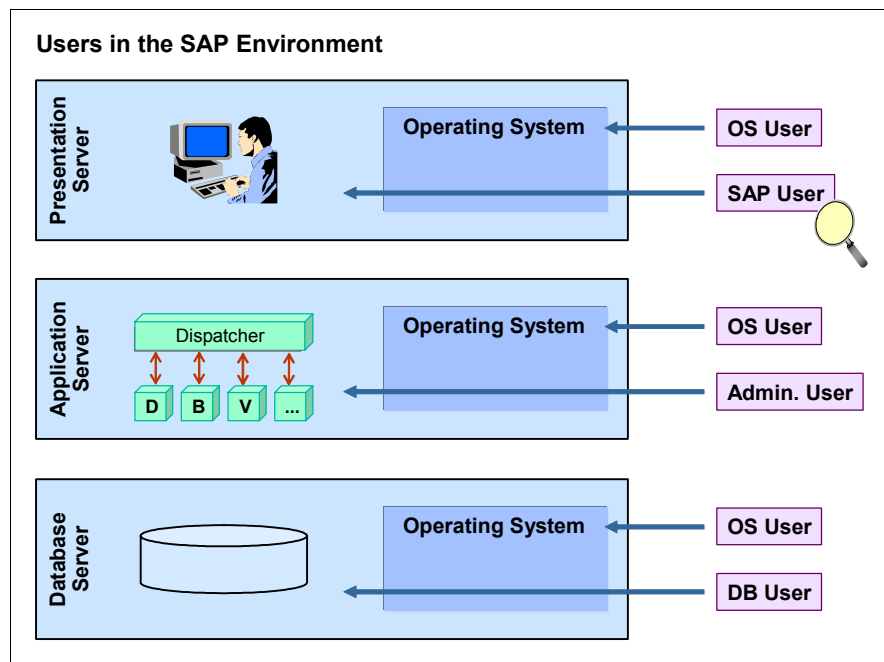

Figure 16-14 Users in the SAP system environment
There are several different users residing outside the SAP system, such as the operating system (OS) user, the database (DB) users, and administrator users. Administrator users (for example, *sidadr*) and database users (for example, *sapr3*) must log in at the operating system level as Figure 16-14 illustrates.